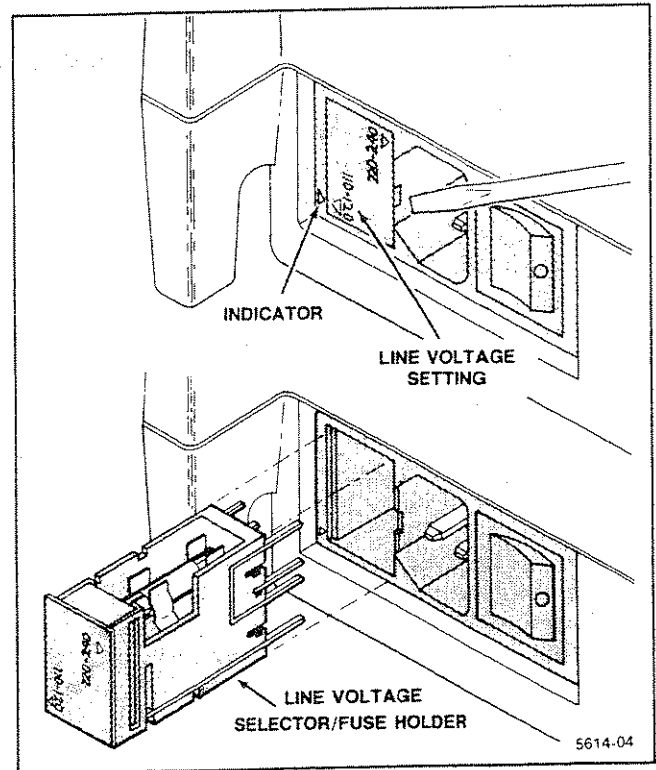

Figure 2-2. Fuse holder/line voltage selector.
is necessary to convert the instrument for operation with a different line voltage, perform the following procedure (refer to Figure 2-2).
2. Using a flat-bladed screwdriver, pry out the Line Voltage Selector. (Refer to Figure 2-2.)
4. Rotate the Line Voltage Selector so the proper range lines up with the indicator on the frame of the power-input module (refer to Figure 2-2), and insert it back into the module.